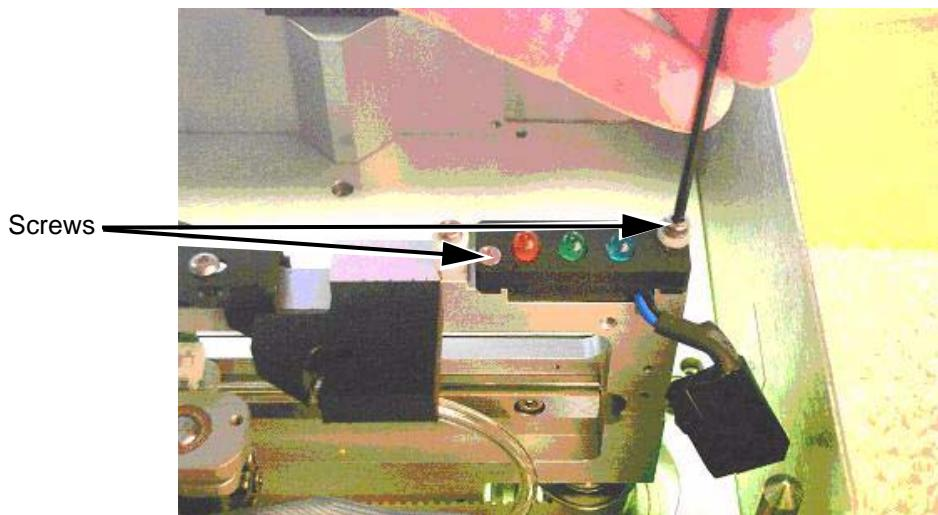

Figure 5-60: Indicator Housing Screws Removal
- 3 Remove the two indicator housing screws (Figure 5-60).